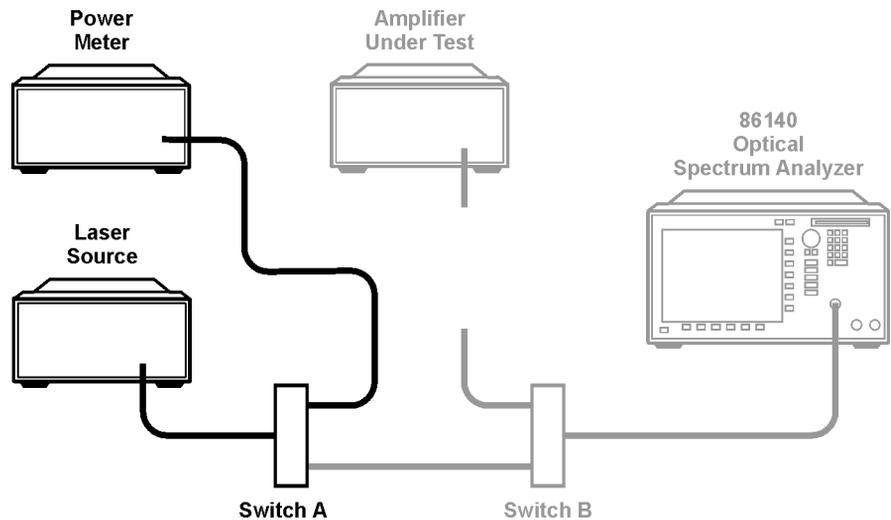

Figure 1-6. Power Meter Measurement
- 6 Connect the source to the power meter through switch A as in Figure 1-6. Set the power meter wavelength parameter to the source mean wavelength value.